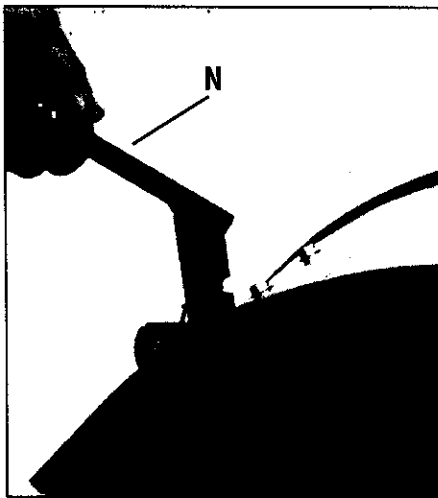

Figure 2-9: Put lever in second notch.
2. Pull the Depth Regulator Lever (N, Figure 2-9) straight back and then slide it to the second notch from the top. If the lever does not move freely, lift the tine hood flap and look for a plastic tie securing the lever in place. Cut and remove the tie.